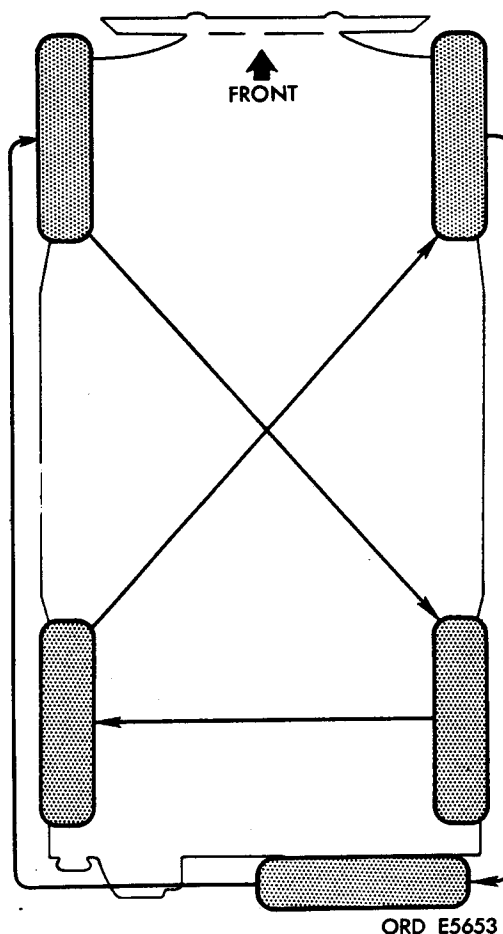

Figure 2-379. Tire rotation plan.
(1) Replace any tire with noticable cut on tread or side wall. Return tire to support maintenance unit for repair. If wear is uneven check toe-in adjustment (para 2-150). If incorrect toe-in is not the cause, report to support maintenance personnel.
(2) Check pressures when tires are cold. Dismount any tire showing unusual pressure loss and examine tire and tube for cause. Replace tube or tire as necessary.
(3) Inflate tires to pressure designated on vehicle data plate. Unequal pressures will affect steering and braking adversely. Underinflated tires are easily damaged. Install all valve caps to help prevent air loss.
*c. Tire Rotation.* To maintain equal wear, rotate tires in accordance with tire rotation plan shown in figure 2-379 at intervals of approximately 2000 miles.